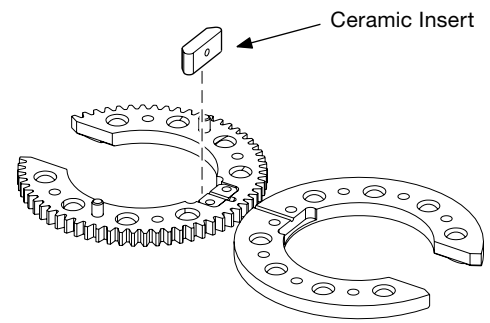

Figure 37 Removing the Ceramic Insert
7. Remove the ceramic insert. See Figure 37.